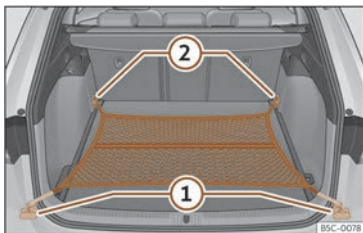

Fig. 186 In the boot: net bag hooked up at floor level.
- Secure the net hooks to the fastening rings >>> Fig. 186 ① and ② >>> ⚠. The bag zip should be facing upwards.